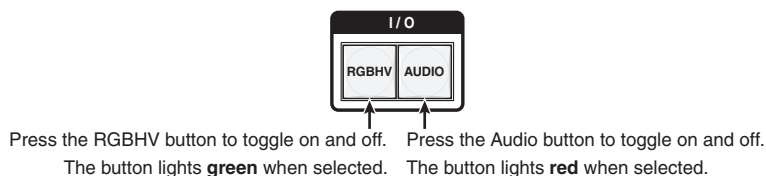

Figure 3-4 — Select RGBHV and audio
2. To select video and audio for the tie, if necessary, press and release the RGBHV button and the Audio button. The RGBHV and Audio buttons light (figure 3-4).